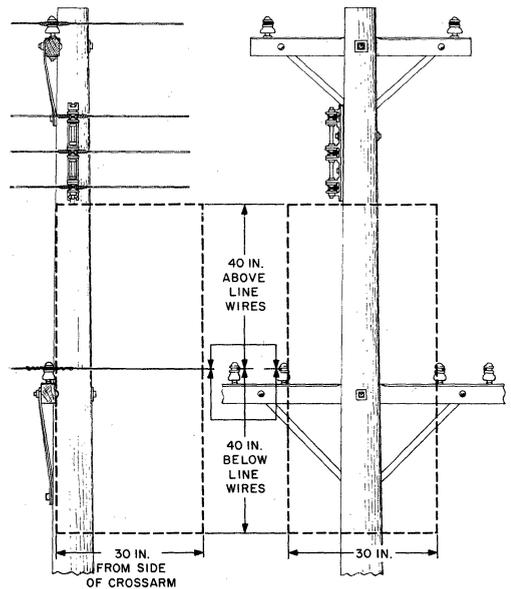

Fig. 2—Climbing Space Requirements
3.02 Climbing space is defined as the vertical space reserved along the side of a pole to permit access to equipment and conductors located on the pole structure. It consists of a horizontal area 30 inches square, extending vertically not less than 40 inches above and below the cables, conductors, crossarms, or other attachments (Fig. 2).